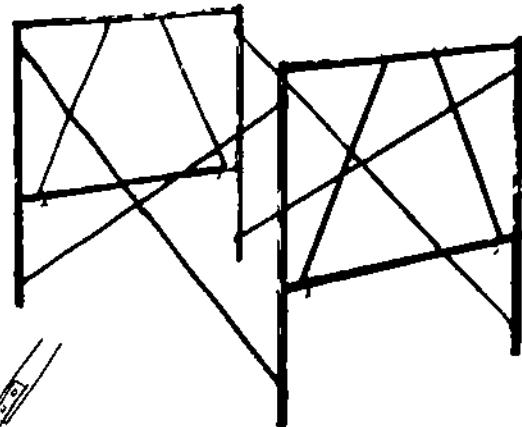

Figure 2-30. Typical Metal Scaffold
b) Approved sectional metal scaffolds are light, portable, and easily assembled, and they can be taken down with a minimum amount of time and tools; but their erection must be plumb and level according to the manufacturer's instructions. A typical metal scaffold is shown in Figure 2-30.